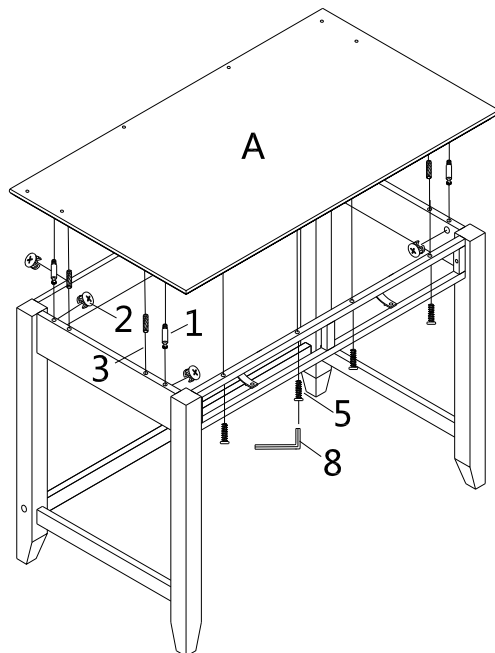

Figure 8
Insert Cam Locks (2) into predrilled holes on unit from Figure 8.
Attach Top Panel (A) to unit from Figure 8 by inserting Cam Bolts (1) into corresponding holes until components meet.